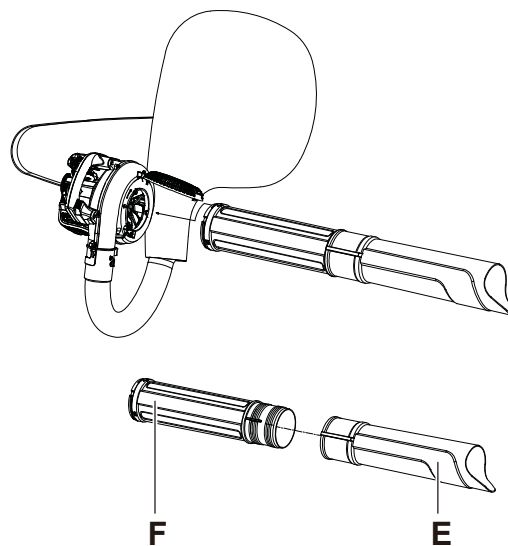

Fig. 7
4. Assemble the lower vacuum tube (E) onto the upper vacuum tube (F), ,then insert the assembled vacuum tubes into the machine. Turn tubes clockwise until vacuum tubes lock into place (Fig.7) .
1. Then turn the whole vacuum tube counterclockwise out of the machine and turn the E and F parts of the whole vacuum tube away. (Fig.7)